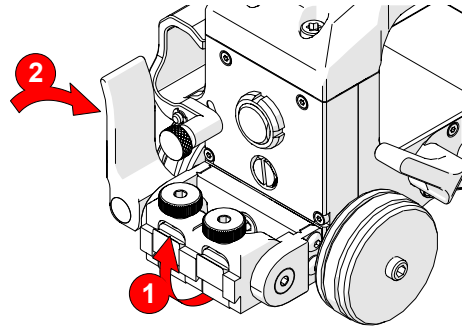

Fig. 36 - Return pivot position
4. Rotate the pivot to the original position and lock the side-mounted lever (Fig. 36).